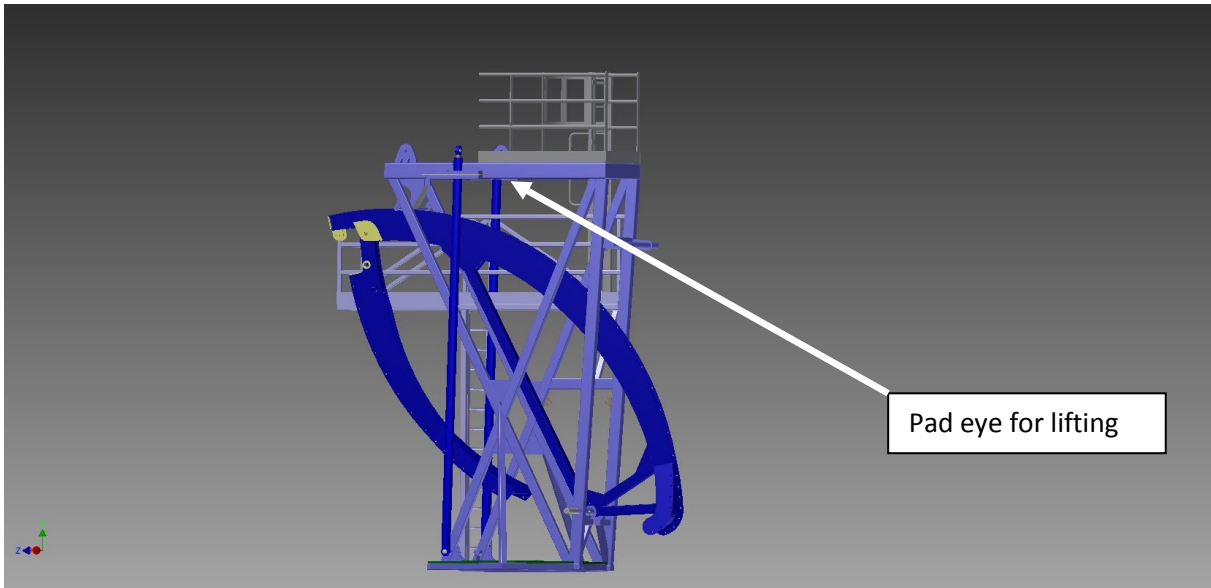

Figure 1.1.1 Gooseneck (NOTE on rev3: gooseneck have been modified by Marotec 2012)
- One gooseneck (Figure 1.1.1)